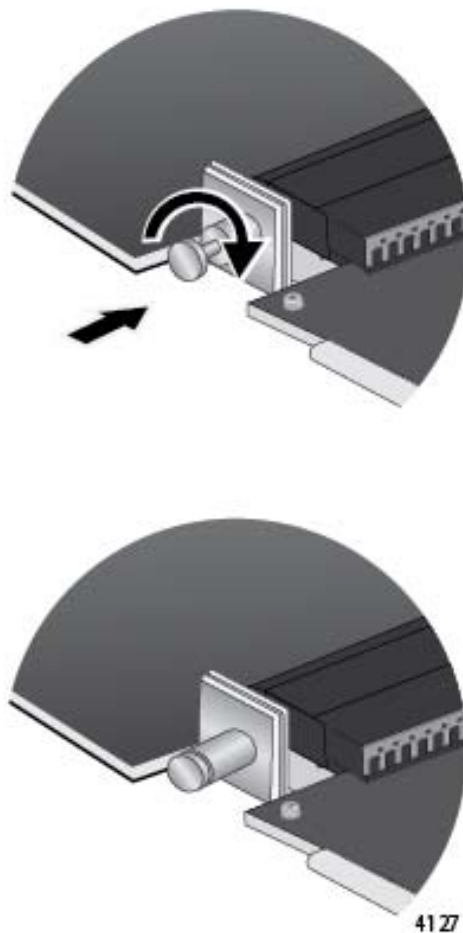

Figure 86. Releasing the Retaining Pin
11. Turn the retaining pin on the side of the line card one quarter turn to release it. Refer to Figure 86 on page 158.